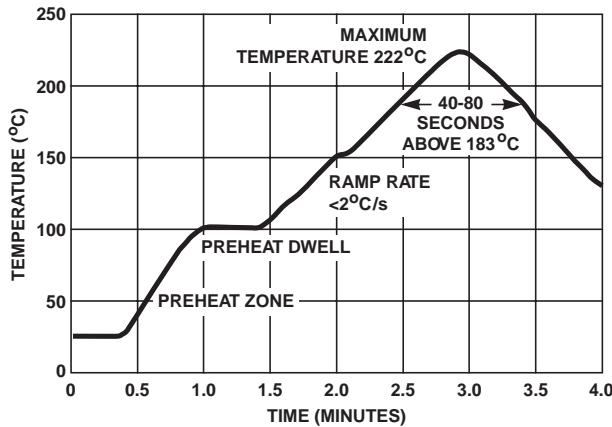

FIGURE 12. IR REFLOW SOLDER PROFILE
The principal techniques used for the soldering of components in surface mount technology are Infrared (IR) Reflow, Vapour Phase Reflow, and Wave Soldering. Typical profiles are shown in Figures 12, 13 and 14.